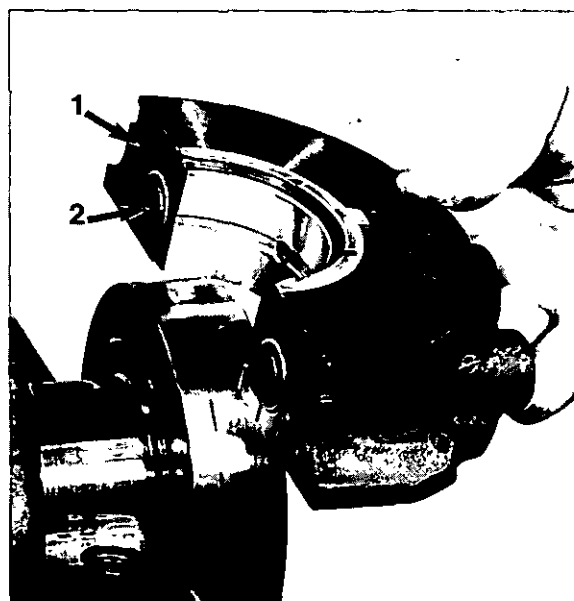

Fig. F.7
5. Renew main bearing cap "O" rings. Lightly coat rear main bearing cap butt faces, outboard of grooves machined in the faces, with Perkins (Hylomar) Jointing Compound, as shown in Fig. F.7. Ensure that compound cannot enter grooves.
6. Renew main bearing cap "O" rings (Fig. F.7).
7. Lightly coat rear main bearing cap butt faces, out-board of the grooves machined in the faces, with Perkins (Hylomar) Jointing Compound as shown in Fig. F.7. Ensure that compound cannot enter grooves.